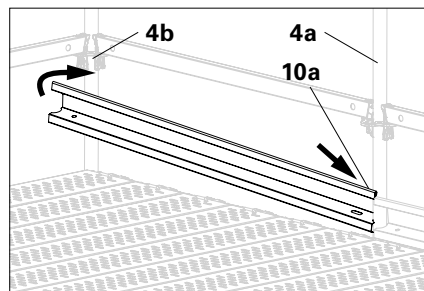

Fig. A2.16a
1. Place Toeboard UPY (10) with recess (10a) obliquely on the Standard UVR (4a). (Fig. A2.16a)